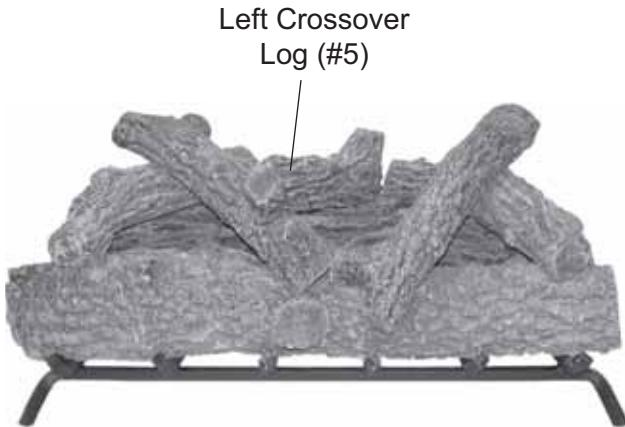

Figure 64 - Placing Left Crossover Log (#5)
7. Place Left Crossover Log #5 on Log #2 and Log #5. See *Figure 64*.
8. Place Right Crossover Log #5 on Log #3 and Log #5. See *Figure 64*.